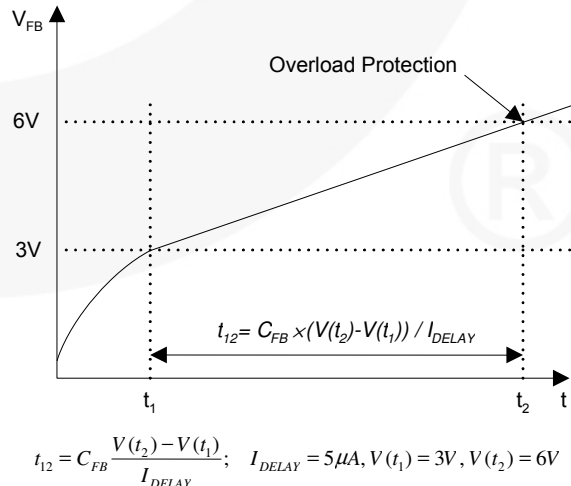

Figure 15. Overload Protection (OLP)
4.1 Overload Protection (OLP): Overload is defined as the load current exceeding a pre-set level due to an unexpected event. In this situation, the protection circuit should be activated to protect the SMPS. However, even when the SMPS is operating normally, the Overload Protection (OLP) circuit can be activated during the load transition. To avoid this undesired operation, the OLP circuit is designed to be activated after a specified time to determine whether it is a transient situation or a true overload situation. In conjunction with the I_{pk} current limit pin (if used), the Current Mode feedback path would limit the current in the SenseFET when the maximum PWM duty cycle is attained. If the output consumes more than this maximum power, the output voltage (V_O) decreases below its nominal voltage. This reduces the current through the optocoupler LED, which also reduces the optocoupler transistor current, thus increasing the feedback voltage (V_{FB}). If V_{FB} exceeds 3V, the feedback input diode is blocked and the 5µA current source (I_{DELAY}) starts to slowly charge C_{fb} up to V_{CC}. In this condition, V_{FB} increases until it reaches 6V, when the switching operation is terminated (as shown in Figure 15). The shutdown delay is the time required to charge C_{fb} from 3V to 6V with 5µA current source.